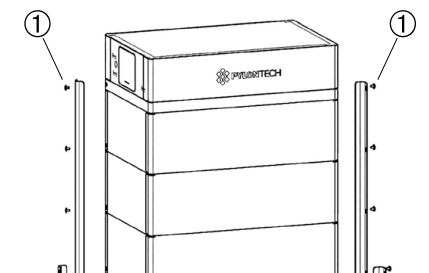

Fig. 3.14 - Metal Brackets screws
- IMPORTANT: When installing the metal brackets at the back side, ALWAYS remain the two connecting points between brackets and BMS unlocked shown as below. (1, Fig. 3.14).